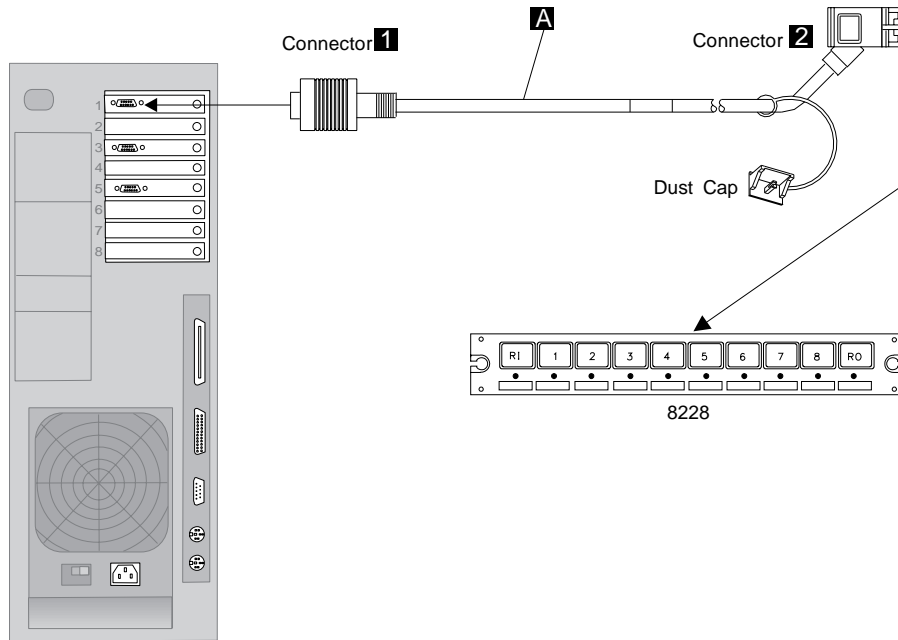
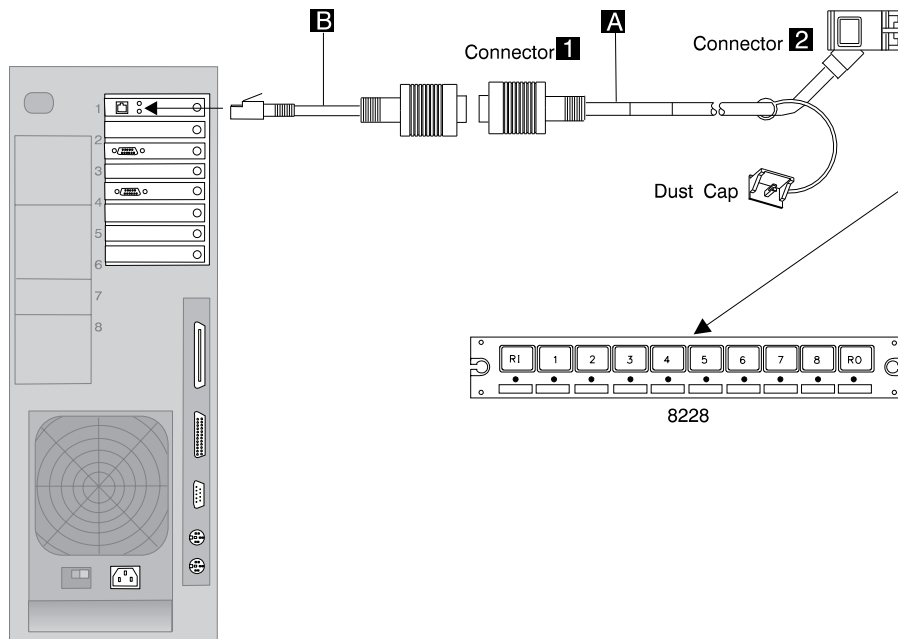

Figure 1-66. Connecting the 8228 to the Service Processor (Sub D connector)
Figure 1-67. Connecting the 8228 to the Service Processor (RJ45 connector)
7. ____ Depending on the service processor connector (Sub D or RJ45), refer to Figure 1-66 on page 1-60 and go to step 7a or refer to Figure 1-67 on page 1-60 and go to step 7b on page 1-60.